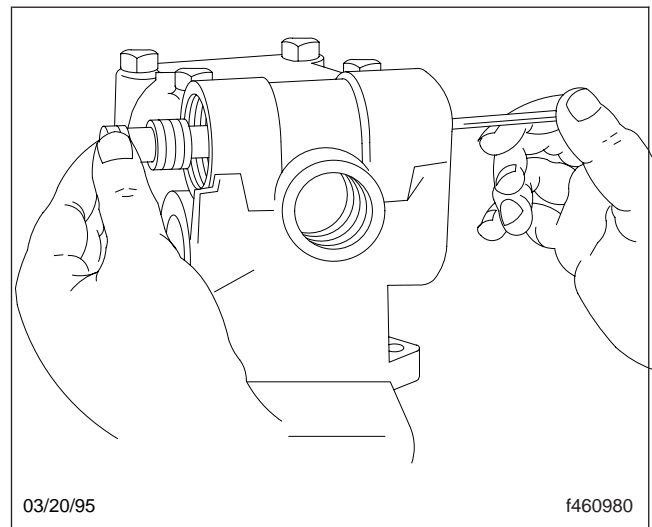

Fig. 4, Removing the Control Valve Assembly
4. Remove the control valve spool assembly by hand, or by pushing it with a small rod. See Fig. 4. Don't push on the small screen in the relief valve seat assembly.